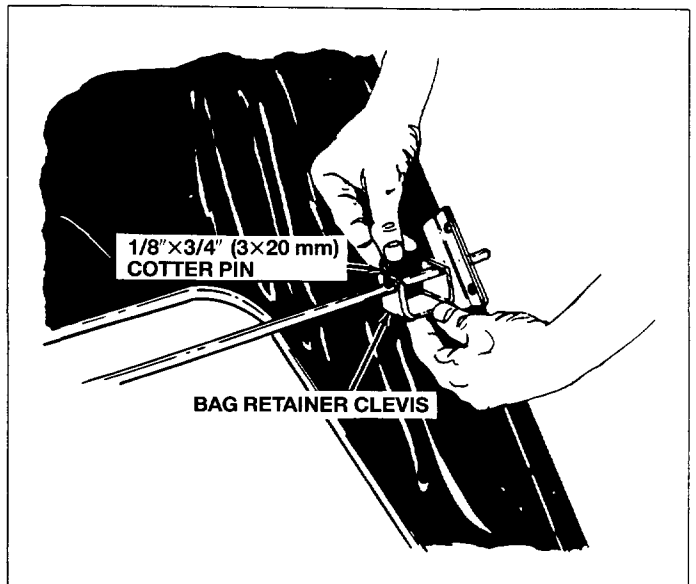

Fig. 24
- Secure the bag retainer clevis on each side of bag with $1/8" \times 3/4"$ (3×20 mm) cotter pins. See figure 24.